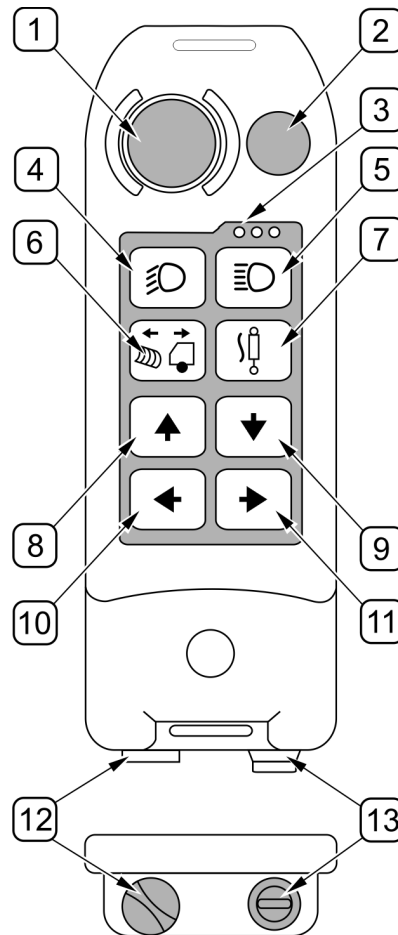

FIG. 1. General design of the radio remote control system's transmitter
1. Press mushroom STOP push-button (1) in the transmitter (FIG. 1)
R25 radio remote control system consists of the transmitter (FIG. 1) and the receiver installed inside the housing of the snow plough control system.